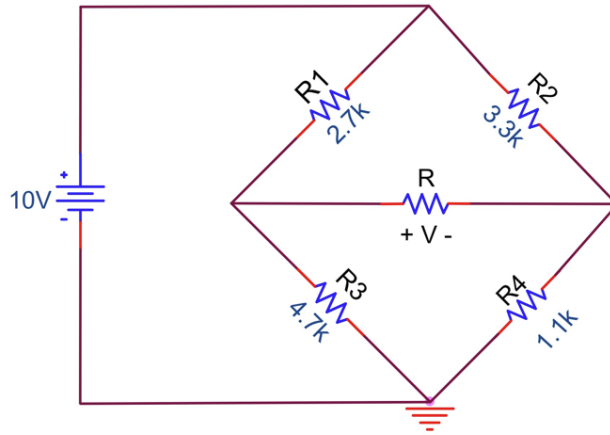

Figure 7.5
2. Construct Figure 7.5 and cycle resistors listed in the table below for “R”. Measure V_R , R, and calculate power. Plot Power vs Resistance using Microsoft Excel.